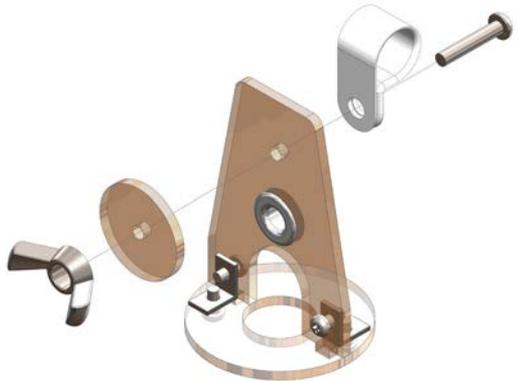
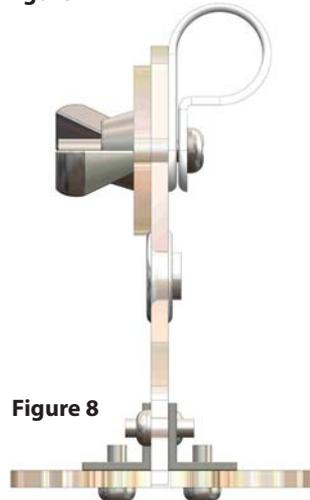

Figure 7
Figure 8
3. Push the machine screw through the clamp, slide the assembled Rip Cord and the plastic washer onto the screw, and then secure with the wing nut (Figure 7). A side view of the completed process is shown in Figure 8.